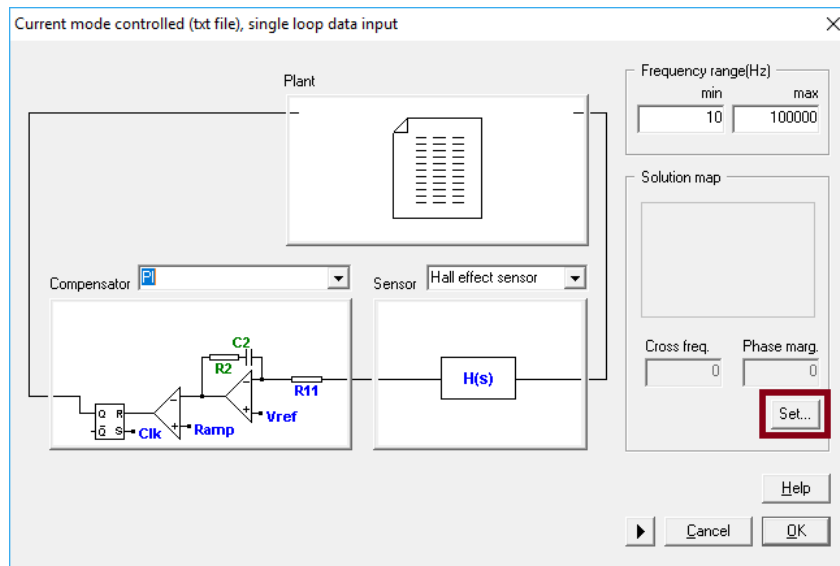

Figure 12: Access to solution map
- Once all the control elements have been defined, the crossover frequency and the phase margin must be selected. Click on the "Set.." button and the solutions map will be displayed. See Figure 12.